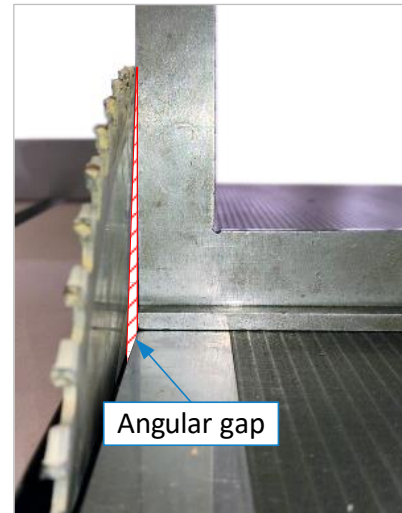

Figure 58: Angular gap
2. Turn off the main switch and lock it. Check that the saw blade is square with a 90° angle stop (Figure 58). Use the table top as reference surface.